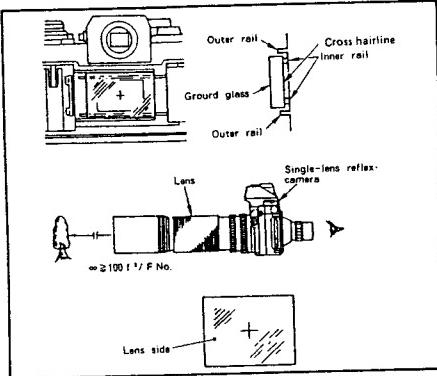

Fig. II-60
- (2) Secure the ground glass on the inside rail face by pressing it.
(3) Shoot a scene at infinity. Then, enlarge the image on the ground glass surface with a magnifier to check the focusing state.
* Note: For the distance for infinity, refer to the Fig. II-60.
(4) After the above checking, remove the ground glass once, and mark the cross-hairline on the ground glass surface. Then, attach it to the camera again.